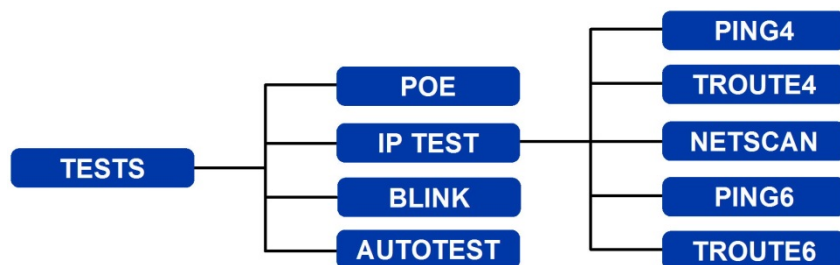

Fig 16 Tests menu map - Ethernet testing (2)
(2) When an active network is detected but no SignalTEK NT Remote Unit, the home screen information bar will read 'Ethernet' and when the TESTS icon is selected; the Ethernet tests shown at Fig 16 are available.